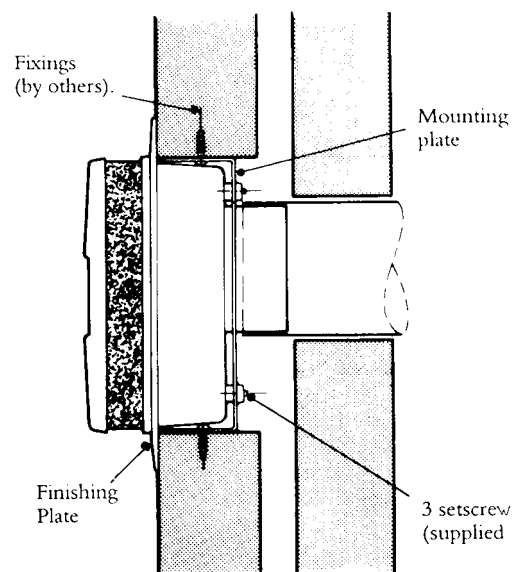

Fig. 8. Mounting details (semi-recessed).
2. Position the mounting bracket (Fig. 7.) in the previously prepared aperture so that the ends of the bracket are flush with the surface of the wall. Secure the bracket with suitable fixings (by others) see Fig.8.
4. Position the finishing plate (fig. 8) on the base of the unit. Place unit base and finishing plate in the mounting bracket and feed the supply cable through the casing aperture. Engage the outlet spigot in the ductwork and fix the casing to the bracket using the screws supplied.